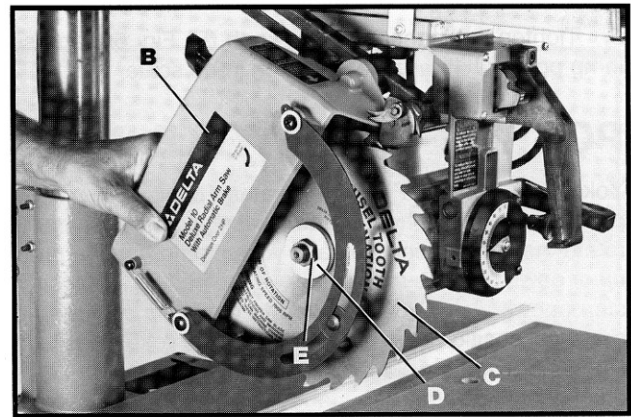
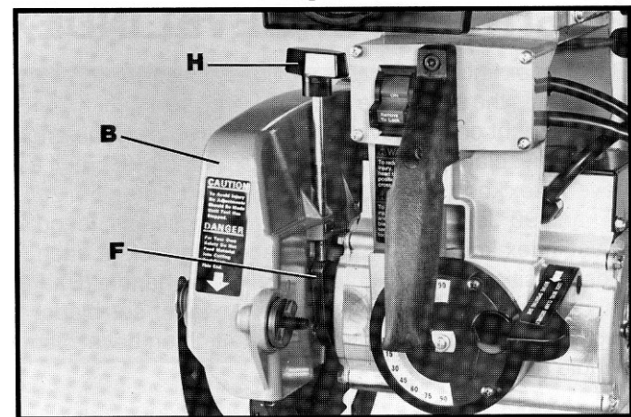

Fig. 60
Fig. 61
3. With the blade guard (B) Fig. 60, in the left hand, insert saw blade (C) into the blade guard (B) and onto the arbor shaft.
4. Assemble the outside (thin) blade flange (D) Fig. 60, with the recessed side of flange (D) facing in and arbor nut (E) onto the arbor shaft. **NOTE:** Arbor nut (E) Fig. 60, has a left hand thread.
5. Lift cam (F) Fig. 61, and assemble blade guard (B) onto cuttinghead assembly.
7. Rotate blade guard (B) Fig. 61, to the horizontal position and tighten clamp knob (H). **IMPORTANT: CLAMP KNOB (H) FIG. 60, MUST BE TIGHT AND BLADE GUARD SECURE DURING OPERATION.**